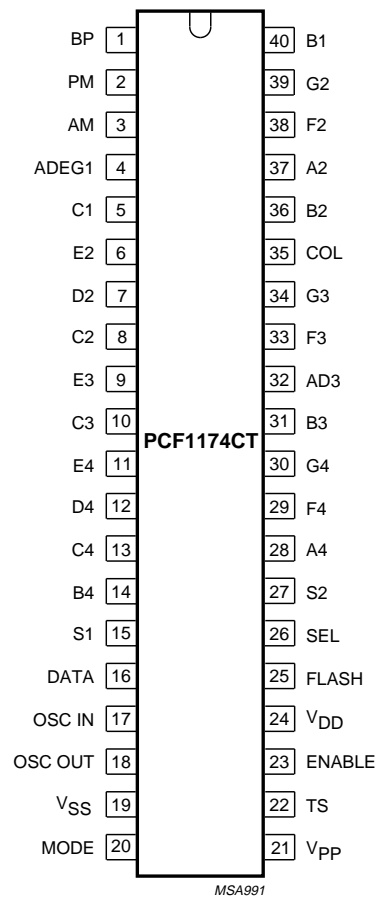

Fig.1 Pin configuration, PCF1174CT, (VSO40).
1. See Fig.1 and Chapter "Package outline" for pin layout and package details.